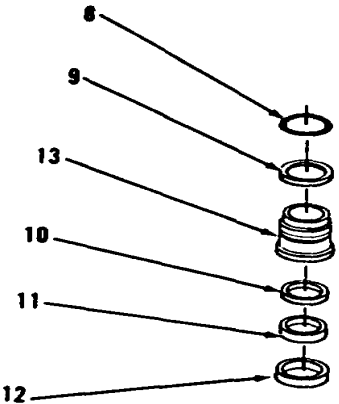

Figure 17-21.
- 8. Remove and discard preformed packing (8), ring (9) and seals (10 thru 12) from head (13, Figure 17-21).
- 2. Using clean hydraulic fluid, lubricate new seals (12 thru 10, Figure 17-21).
- 3. Using seal installer, install seals (12 thru 10) in head (13). Lip on center seal (11) faces inside head (13). Lip on outside seal (12) faces outside head (13).
- 4. Install new preformed packing (8) and new ring (9) on head (13).